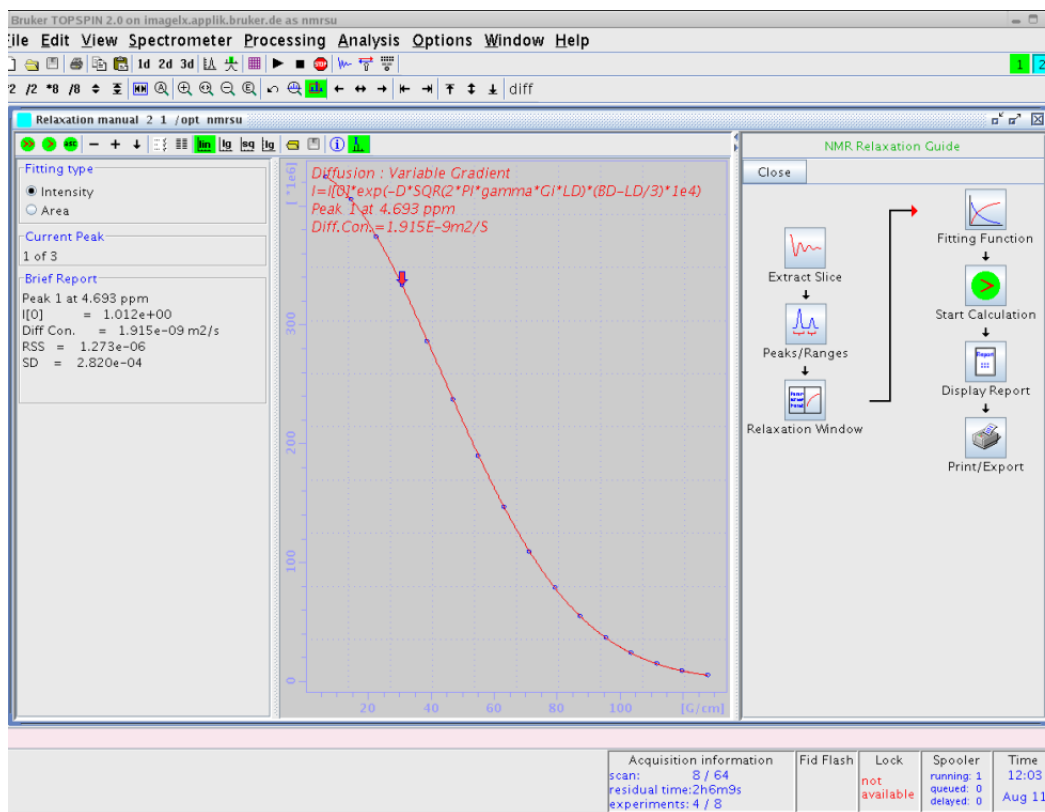

Figure 3.15 Data Points with Fitted Curve
11. Click on the **Start Calculation** button (see Figure 3.15). This fits the fitting function to the data points and plots the curve together with the data points. The results are shown in a brief report field on the left side of the window, and also in title displayed in the plot window.